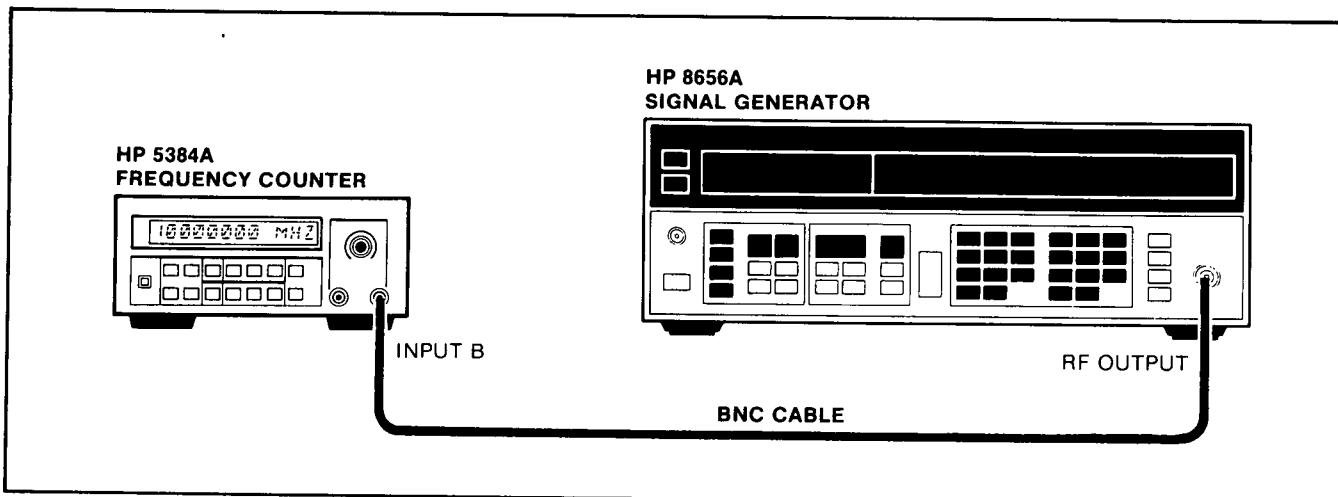

Figure 5-4. HP 5384A Channel B Input Amplifier Adjustment Setup
- Connect the HP 8656A Signal Generator as shown in *Figure 5-4*.